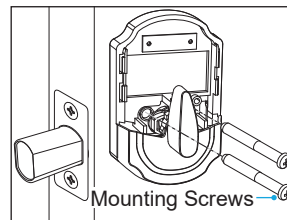

Fig. 11
**Step 5.** Align the mounting holes of inside section with the two round holes near the square hole in latch, then use the two mounting screws to install the inside section on the door (Fig. 11).